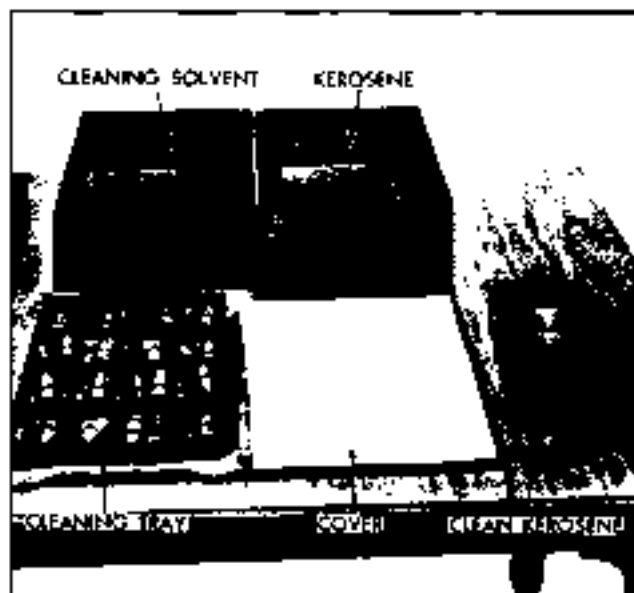

Fig. 6-82 Lifter Wash Tank and Tray
Wash tank and tray J 5821 (Fig. 6-82) is recommended for cleaning valve lifters. This tank should be used only for valve lifters and should be kept covered when not in use. All servicing should be done in an area removed from grinders or other sources of dust and foreign material.
3. Drain oil out of lifter body and place all valve lifter parts in separate compartment of tray from wash tank J 5821 (Fig. 6-82).
5. Wipe out tank cover and place tray of parts on cover in front of tank (Fig. 6-82). A shop towel under tray and clean paper on remainder of cover will enhance cleanliness.